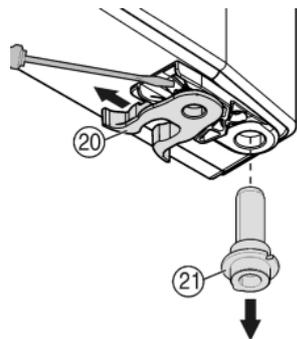

Fig. 8
- ▶ Transfer the spring clamp Fig. 8 (20): Depress the latch nose and pull the spring clamp off over it.
- ▶ Pull the bearing pin Fig. 8 (21) out of the door bush and transfer it to the opposite side together with the washer. The latch nose must point to the inner side of the door, the notch to the outer side.
- ▶ Swing the door in at the bottom and insert the bearing pin Fig. 8 (21) into the turn hinge. If necessary, turn the bearing pin until it snaps into place.